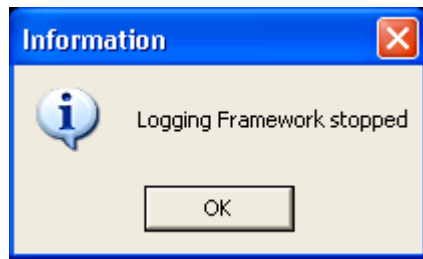

Figure 2-5: Logging Framework Information Window
- b. An *Information* window displays verifying that Logging Framework has been stopped, as shown in Figure 2-5.